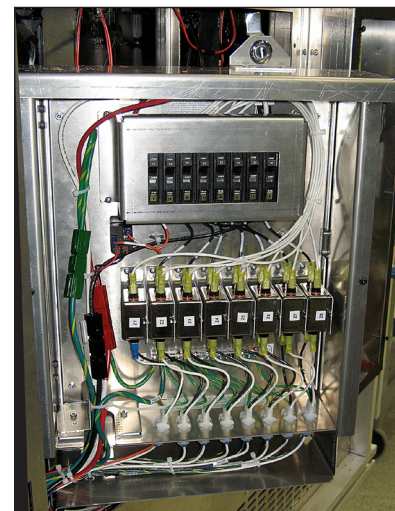

Figure 21: Term Panel Swung Out
2. While holding the term panel, allow it to slowly rotate open and out of the way. Refer to **Figure 21**.